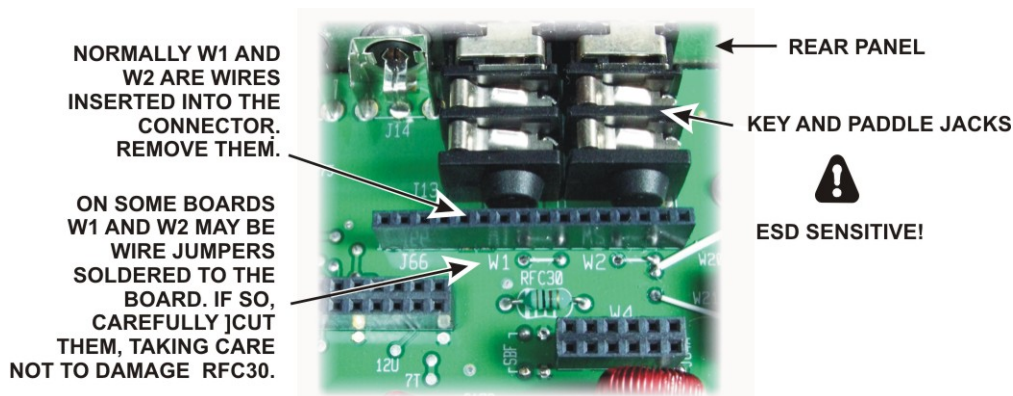

Figure 7. Removing Jumpers W1 and W2.
- ☐ Remove jumpers W1 and W2. The jumpers may be wires plugged into connector J66, or they may be wire jumpers soldered to pads on the RF board (see Figure 7). If soldered to the board, take care not to lose any pieces of wire inside the K3. No more than 1/8" (3mm) of lead length should be left to avoid the possibility of shorting to a nearby circuit. ***Take care to identify the correct jumpers. Do not cut nearby jumpers W20 or W21!***